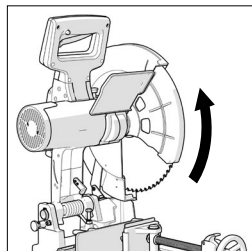

Fig. 5
- Retract the lower blade guard up into the upper blade guard by rotating it by hand. (Fig. 5)